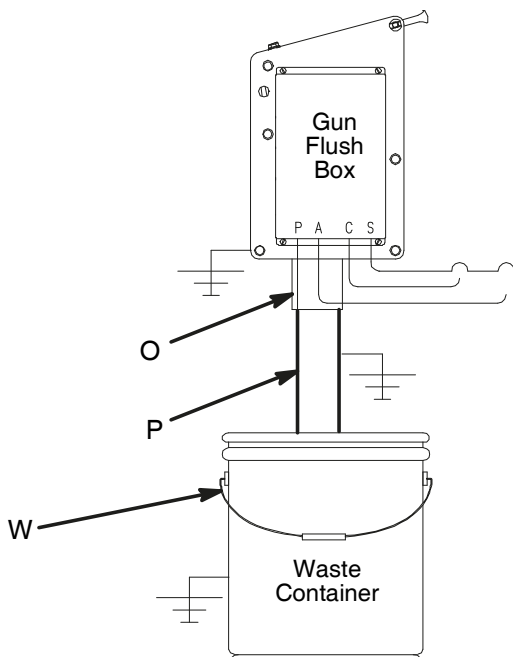

FIG. 6: Enclosed Waste Container Requirements
Connect the longest possible section of straight plastic or grounded metal pipe (P) between the Gun Flush Box fluid outlet (O) and an enclosed metal waste container (W). See FIG. 6.